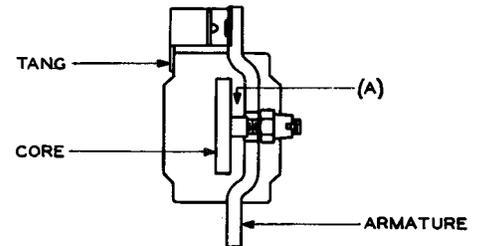

Fig. 8 - Armature Travel
2.11 Armature Travel - Fig. 8(A)